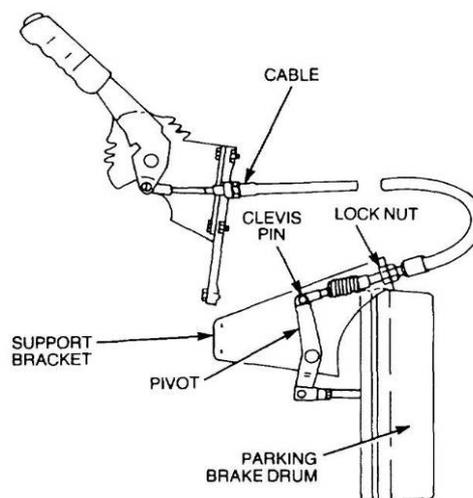

Figure 59 Removal of the Parking Brake Cable
- o.** Remove the split pin and clevis pin securing the parking brake cable to the pivot at the transmission end of the cable (Figure 59). Loosen the locknuts and remove the end-nut from the cable. Withdraw the cable from the bracket.